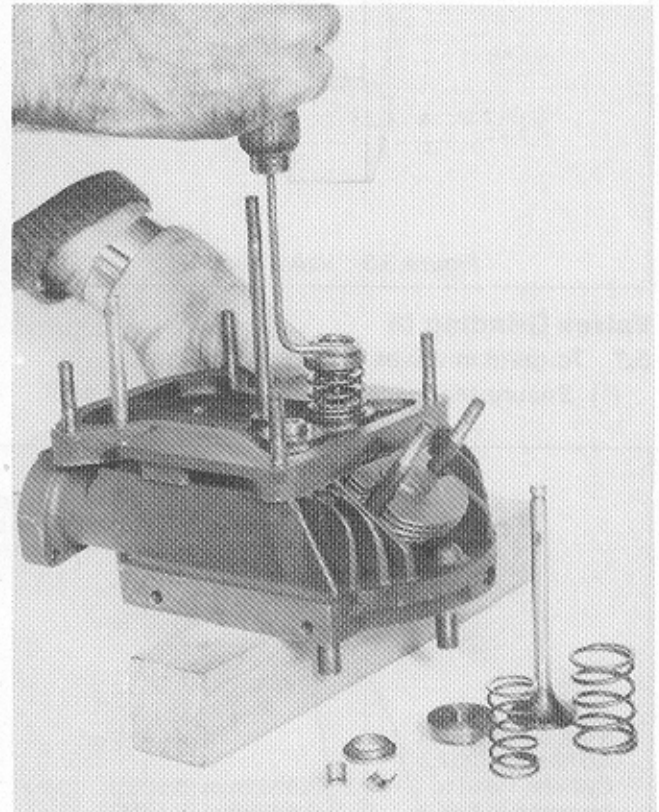

Figure 5.2 Valve Removal
Valves Removal (Figure 5.2)
5.5 To remove the valves, place the cylinder head on a block of wood as shown in Figure 5.2. Using the special tool as shown, press down the valve spring and remove the split collets from the valve stems. Withdraw the valves and springs noting their positions, that is inlet and exhaust.